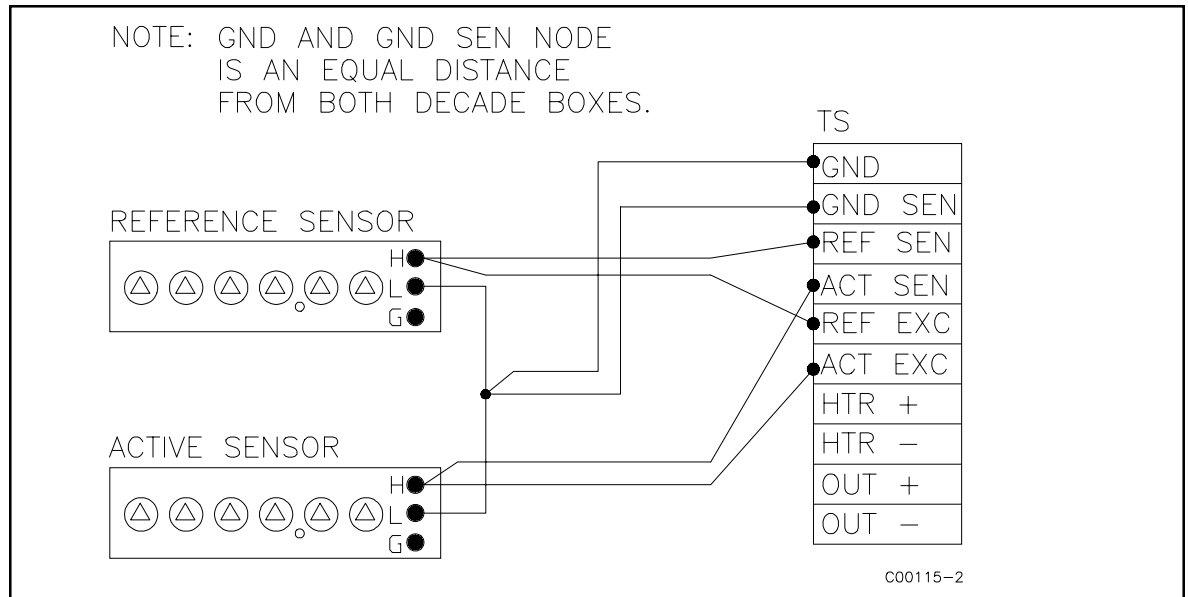

Figure 5-4. Decade Box Wiring Diagram
2. Connect two decade boxes or one decade box and a fixed resistor to terminal block TS1 (or TS2 as applicable) on the input board as shown in the diagram of Figure 5-4.